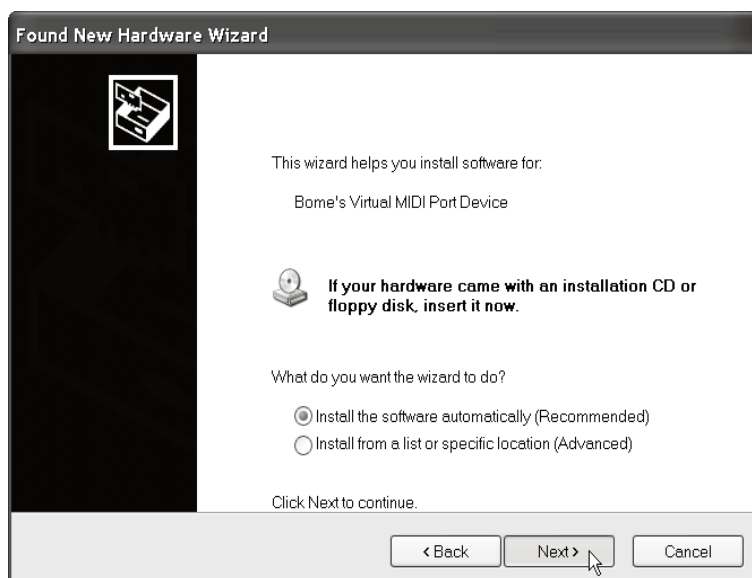

Figure 4.11
11. Select **Install the software automatically** and click **Next**. (Figure 4.11)